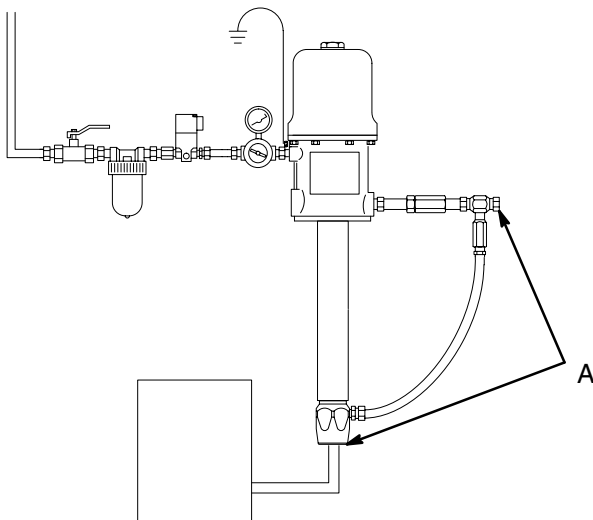

Fig. 20
A Pressure Relief Kit (A) is required in the Horizon system to reduce the risk of serious injury, caused by splashing fluid in the eyes or on the skin resulting from component rupture from over-pressurization. See Fig. 20. See page 77 to order the kit.
To reduce the risk of serious injury, the pressure relief valves (J) are required to prevent the system from over-pressurizing, which could be caused by thermal expansion of the fluids. See Fig. 20. See page 77 to order the valves.